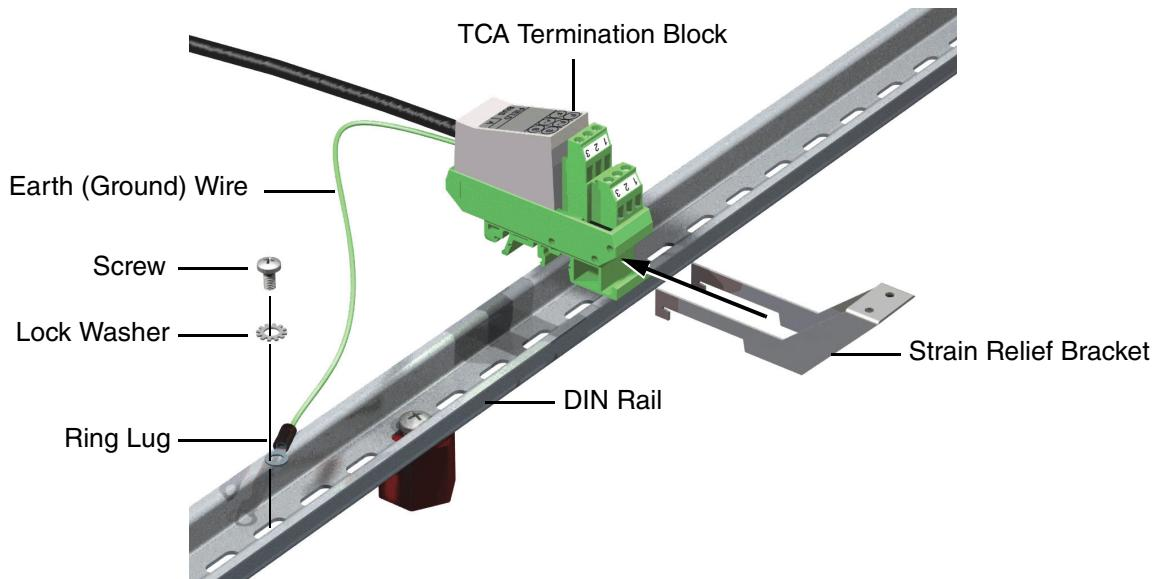

Figure 2-8. TCA Termination Block Assembly Mounting
1. Assemble the termination blocks associated with the termination cable assemblies (P0903VY), snap them onto the mounting rails (DIN rails) in the enclosure (as shown in Figure 2-8), and connect the ground wires. (For future reference, Figure 2-9 illustrates how to remove the TCA termination blocks.)